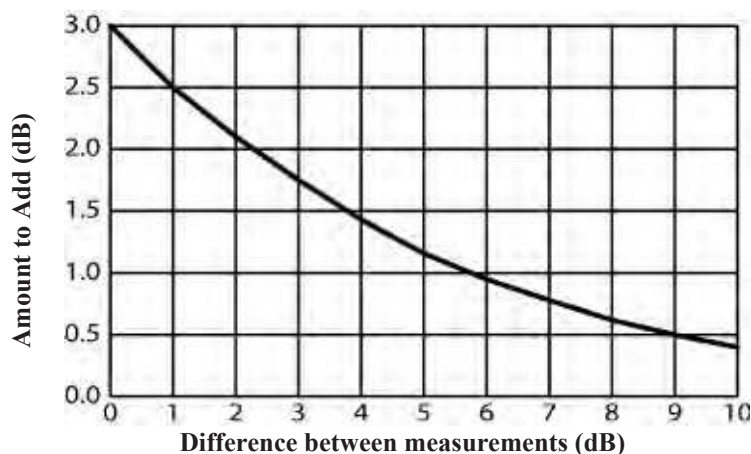

Figure 9–2: Combining measurements chart
4. Find that difference on the x-axis of Figure 9–1.
in Figure 9–2 is 2.5 dB. Therefore the combined level when these two sound sources are present in the measurement area at the same time 93.5 dB.